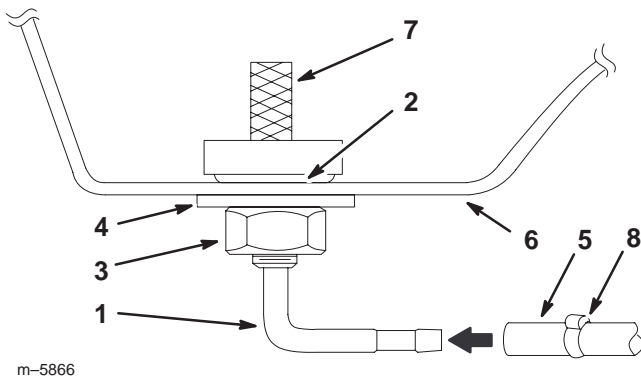

Figure 4
6. Pull the bulkhead fitting through the hole until the threads are showing (Fig. 4).
8. Install the washer and locknut onto the fitting. Position the elbow in the correct position, for the fuel line, and tighten the locknut (Fig. 4).
9. Install the fuel line onto the elbow of the fitting and secure using new hose clamp (1/4 in.) (Fig. 4).
11. Pour gasoline into the fuel tank, enough to cover the side bulkhead. Check for leaks around both fitting areas (Fig. 4).